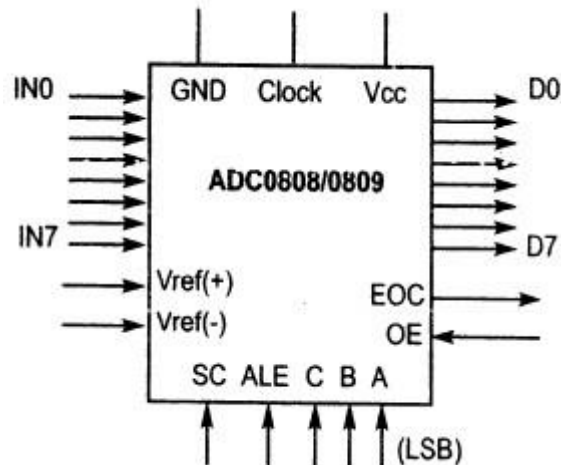

Figure 5.9 ADC0808/0809
- From Figure 5.9, notice the ALE pin.